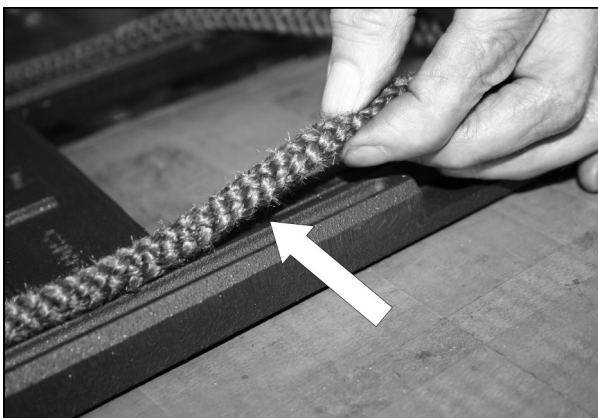

Fig. 8. Rope Replacement
- Press the rope gasket into the channel on the rear of the door casting, following the same layout as the old rope seal. See Fig.8